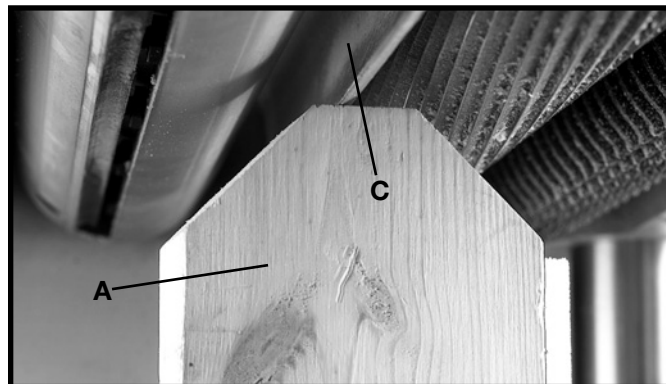

Fig. 40
3. Place the gage block (A) Fig. 40, minus the feeler gage, under one end of the chipbreaker (C), as shown. The bottom of the chipbreaker (C) should just touch the top of the gage block, as shown.